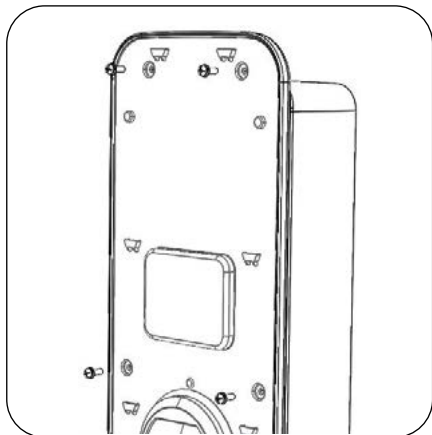

Figure 38
8. Close the battery charger body and secure with the relative screws (Figure 38).